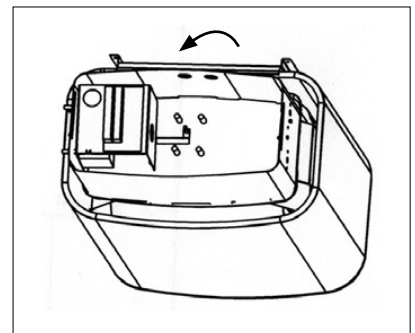

Bild 5.
- Finally, attach the bottom plate of the junction box and adjusters to their place (Figure 5).